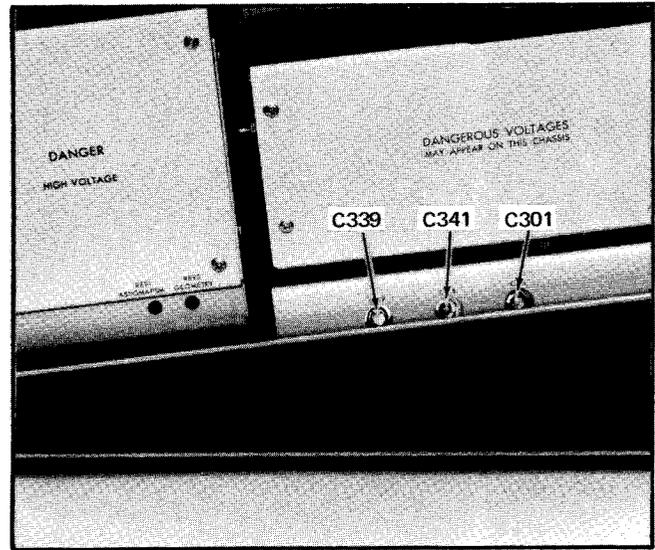

Fig. 5-13. Location of adjustments in step 35.
c. ADJUST—C301, LOOPING BALANCE adjustment, on the left side of the instrument (see Fig. 5-13) if the trace has two loops.
- f. ADJUST—C341, H. F. NOISE REJECTION adjustment, (see Fig. 5-13) for minimum high frequency noise. Do not adjust C341 more than a few turns clockwise.
- h. ADJUST—C339, 350 V and 1500 V LOOPING COMPENSATION adjustment, (see Fig. 5-13) for minimum width of trace loop.
- k. ADJUST—LOOPING COMPENSATION control and C301, LOOPING BALANCE adjustment (see Fig. 5-13), for minimum vertical width of the trace loop.